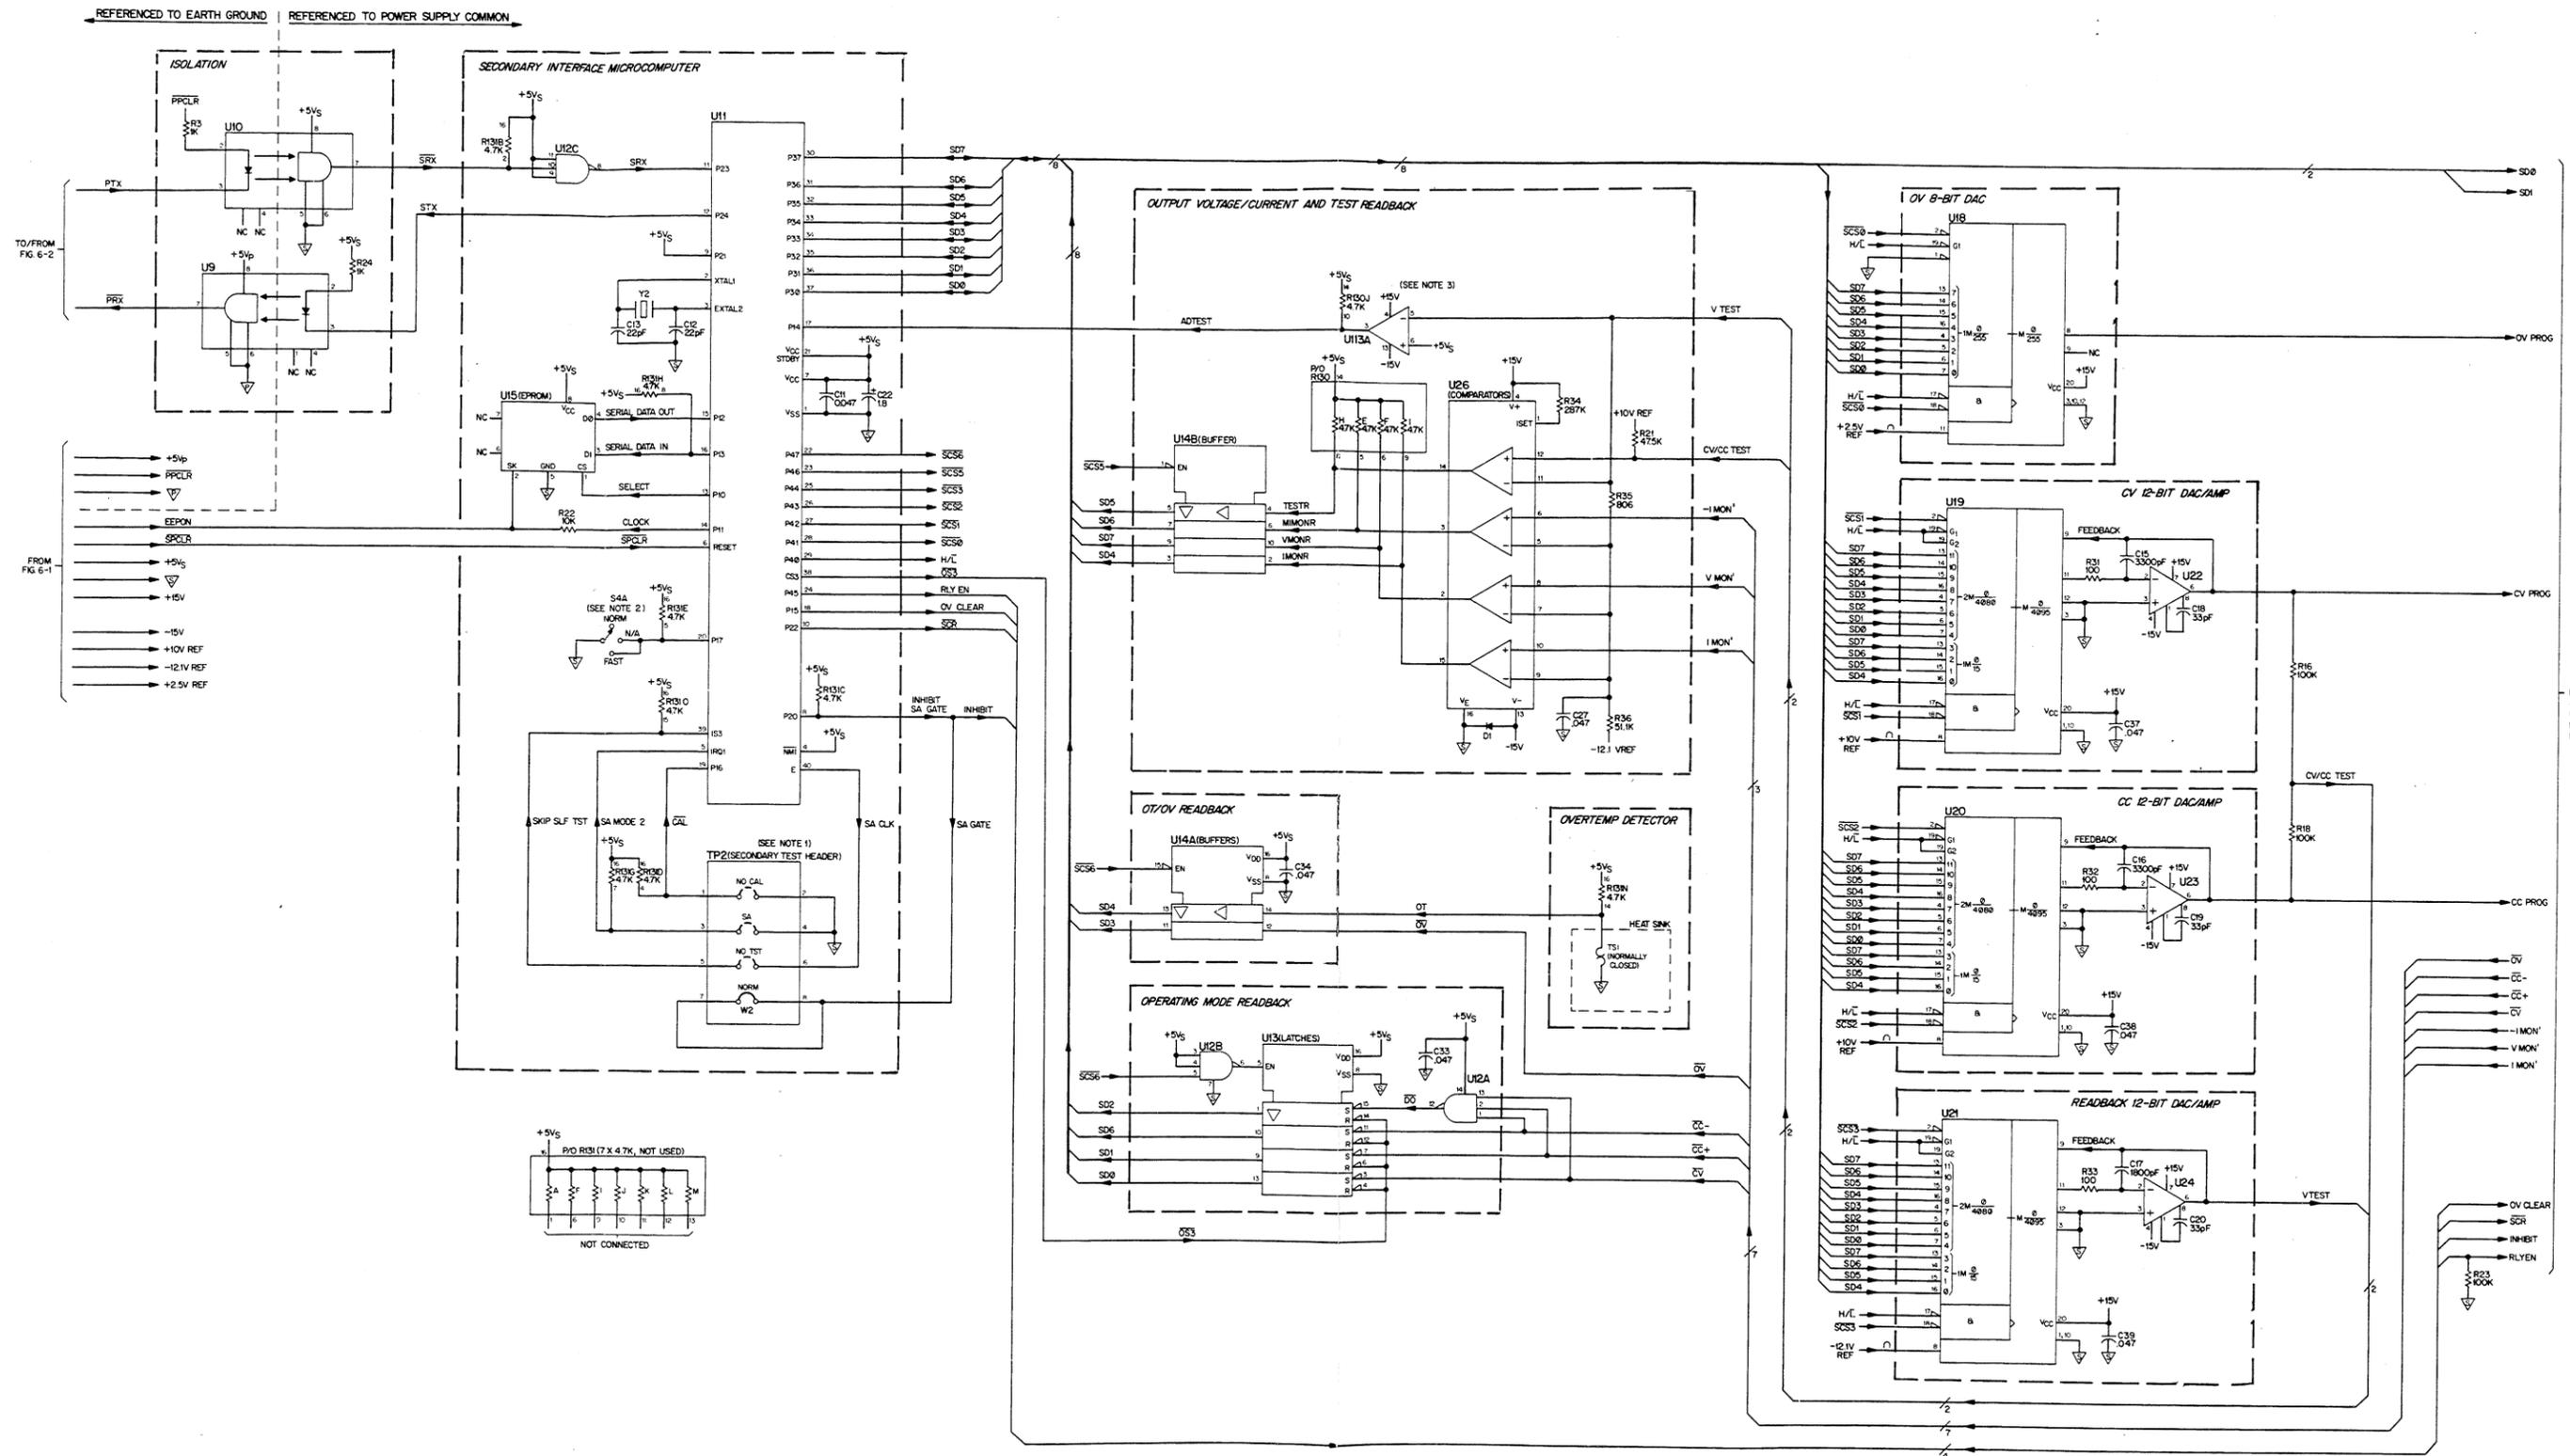

Figure 6-3. HP Models 6632A-6634A Secondary Interface Circuits, Schematic Diagram
Schematic Notes for Figure 6-3
1. OPERATING MODE switch S4 selects either the NORMAL or FAST mode (see paragraph 4-4 in the Operating Manual). Switch S4 is actually a three position switch: NORMAL, N/A, and FAST. The FAST and N/A positions are connected together and select the same operating mode (FAST). For functional clarity, section S4A, shown in the voltage gain stage on this schematic, is also shown in the secondary interface microcomputer circuit of Figure 6-3.
1. OPERATING mode switch S4 selects either the NORMAL or FAST mode (see paragraph 4-4 in the Operating Manual). Switch S4 is actually a three position switch: NORMAL, N/A, and FAST. The FAST and N/A positions are connected together and select the same operating mode (FAST). For functional clarity, section S4A, shown in the voltage gain stage on this schematic, is also shown in the secondary interface microcomputer circuit of Figure 6-3.